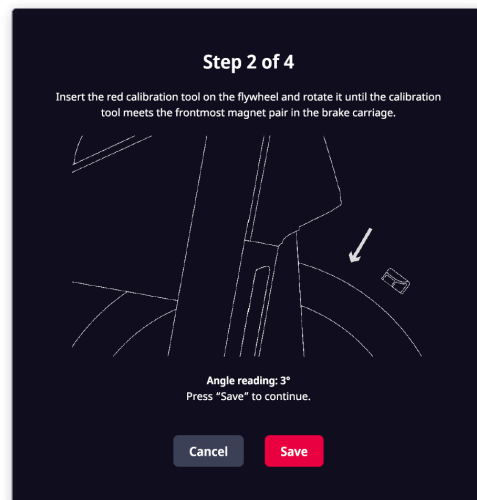

Fig. 80
- b. Insert the red calibration tool on the flywheel and rotate it until the calibration tool meets the frontmost magnet pair in the brake carriage. (Fig. 80)